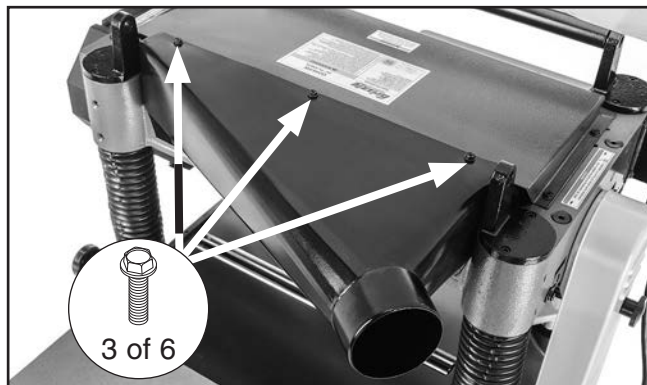

Figure 18. Dust hood attached (Model G0453W shown).
7. Attach top and bottom of dust hood to planer with (6) pre-installed M6-1 x 12 flange bolts (see **Figure 18**).